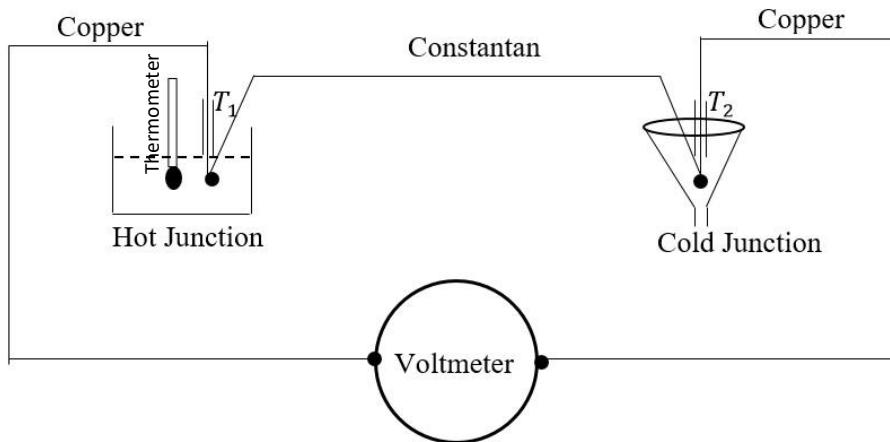

Figure 1
- Construction of thermo-couple:** A copper(Cu)-constantan(Cn) couple is employed for this experiment. To prepare this couple, three pieces of wires, each of one meter long are taken, of which one is of Cn, while the other two are of copper. The two ends of Cn wire are cleaned and are joined by twisting with one end of each of the copper wires. Then these junctions are soldered with minimum amount of solder covering a length of about 2-3 mm of each junction. Two glass tubes T_1 and T_2 (figure below, Fig. 1) are introduced in the copper wires to be sure that the metals touch at the junctions only.
Ice is poured in the funnel (see Fig. 1) to cool the right hand junction to 0°C . The left hand junction is dipped inside a pot filled with water. The water temperature can be varied using a heater controllably and the corresponding temperature should be measured using a thermometer placed near the junction inside the water (see the figure). To measure the thermo-e.m.f a voltmeter (that can measure millivolt) is used.
- To measure the melting point of a solid, the hot junction should be inserted into the solid (usually in a powder form) present inside a test-tube immersed into a water bath (see Fig. 1) that can be controllably heated up using a heater.